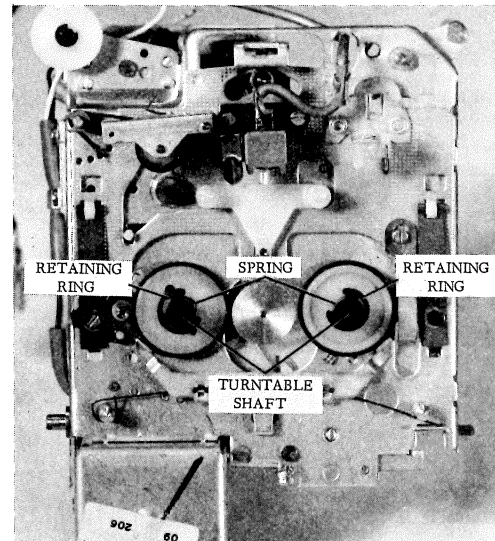

Figure 2
2. Lift SPRING sufficiently to provide clearance between TURNTABLE and SPRING, then install RETAINING RING on TURNTABLE SHAFT as shown in Figure 2.